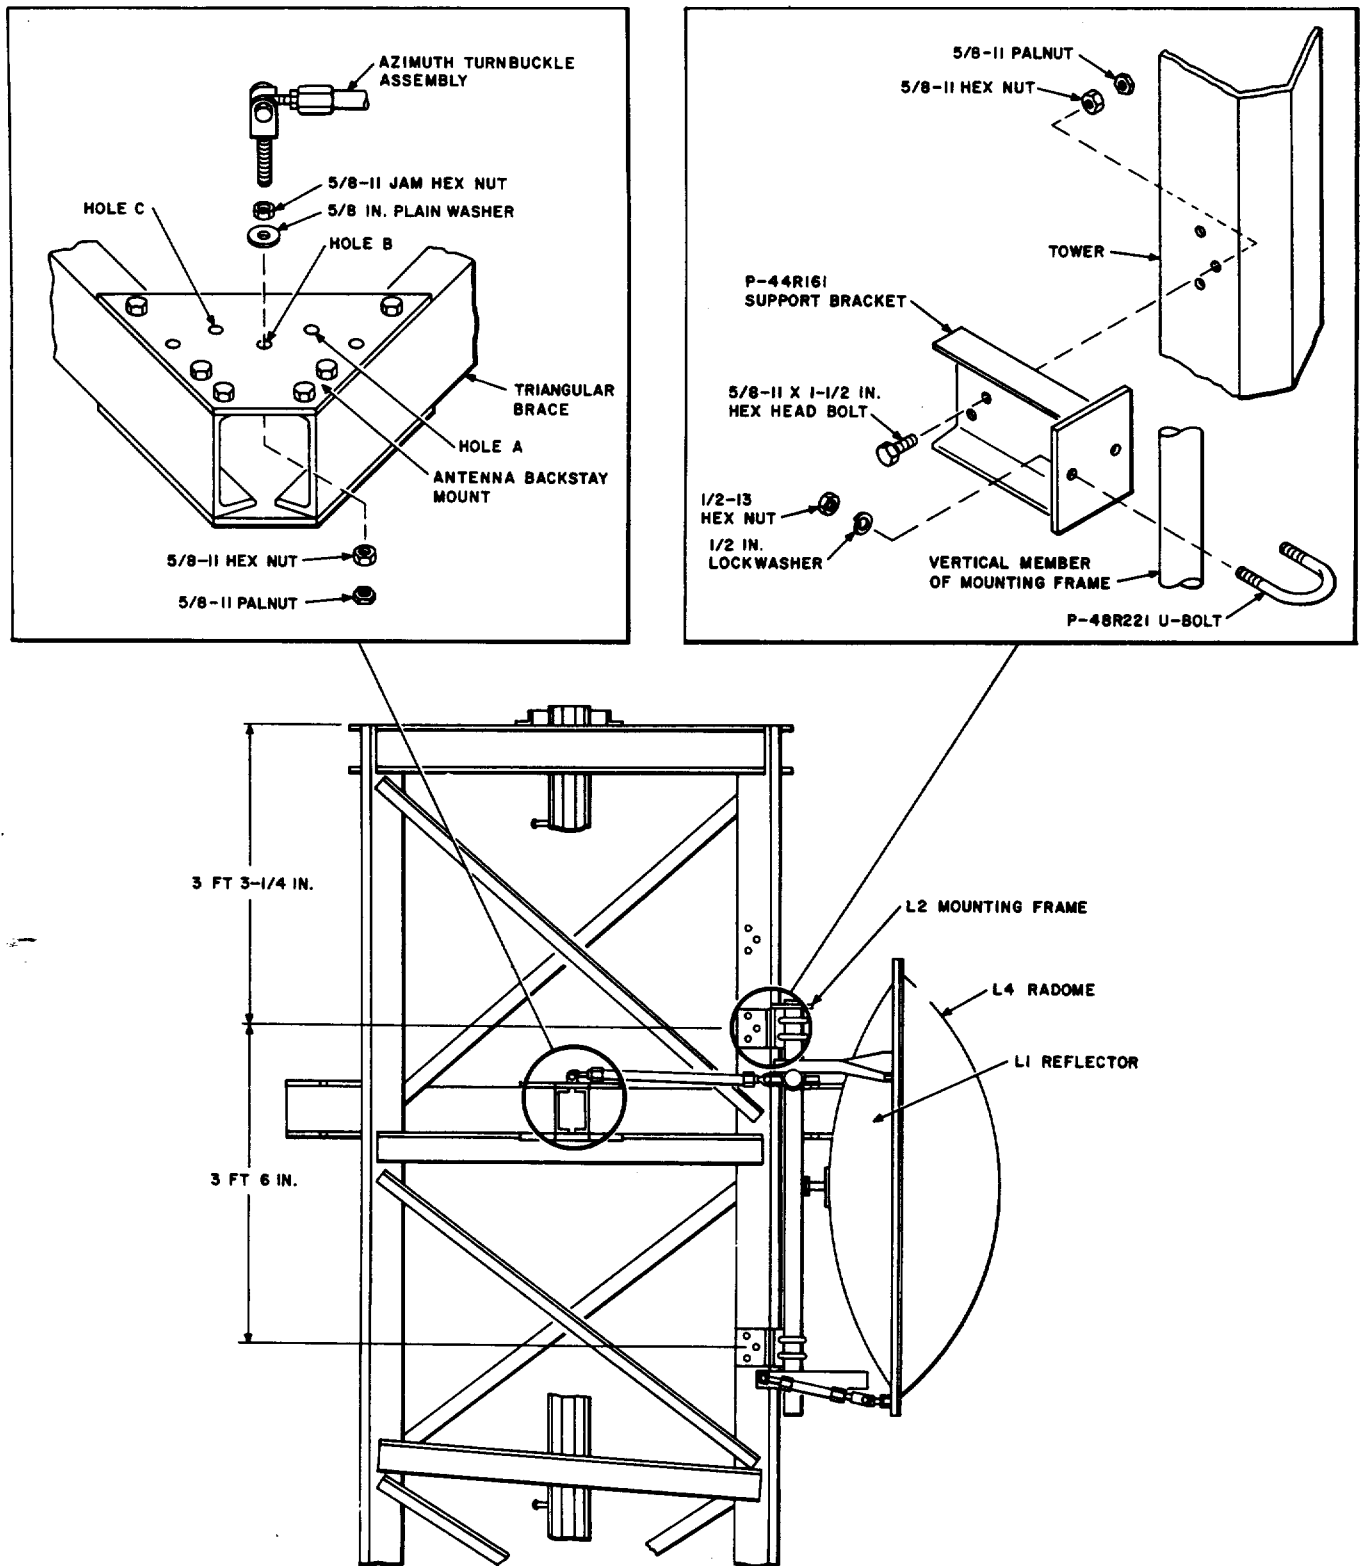

Fig. 8—Mounting Antenna on C Self-Supporting Tower
**5.20** Attach the two P-44R161 bracket assemblies to the tower leg as shown in Fig. 8. Local supervision shall determine, using Table C as a guide, if the brackets should be mounted on the left or right of the tower leg. Secure each bracket assembly with three 5/8-11 x 1-1/2 hex head bolts, 5/8-11 hex nuts, and Palnuts.
**5.21** Hoist the antenna to the installation level. Guide the vertical member of the mounting frame into position against the two brackets (Fig. 8). The collar of the mounting frame should rest on top of the upper bracket. Secure the mounting frame to each P-44R161 bracket assembly using a P-44R221 U-bolt, two 1/2 lockwashers, and two 1/2-13 hex nuts as shown in Fig. 8.
**5.22** With the antenna still supported by the winch line, install the azimuth adjustment turnbuckle using a 5/8-11 jam hex nut, 5/8 medium washer, 5/8-11 hex nut, and Palnut as shown in Fig. 8.